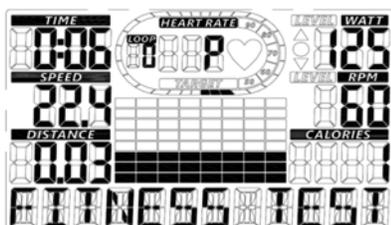

Fig. 44
- After pressing "START" button, LCD will show "3" "2" "1" to count down 3 seconds then switch the display to workout image with default LEVEL. During the test, it is impossible to make adjustment (Fig. 44).